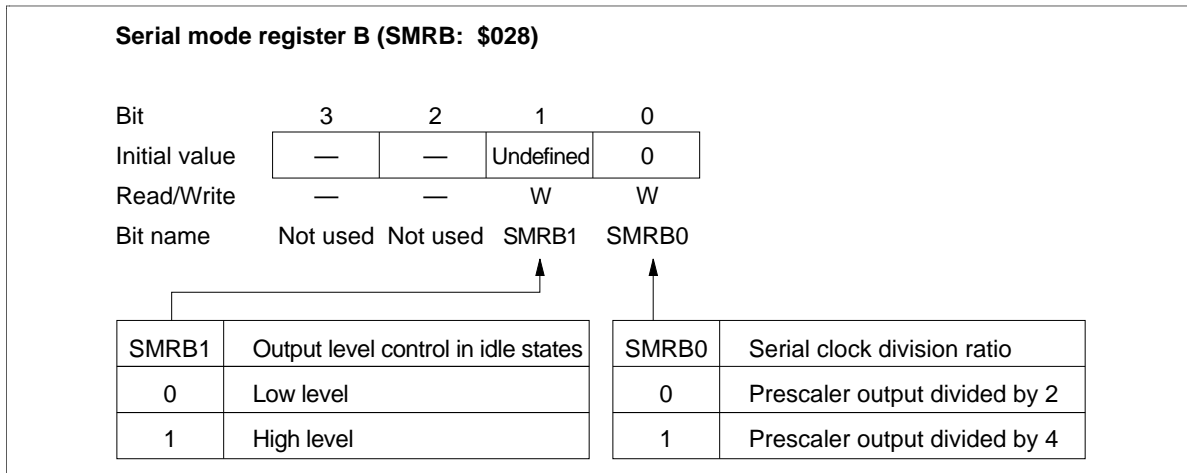

Figure 72 Serial Mode Register B (SMRB)
**Serial Mode Register B (SMRB: \$028):** This register has the following functions (figure 72).